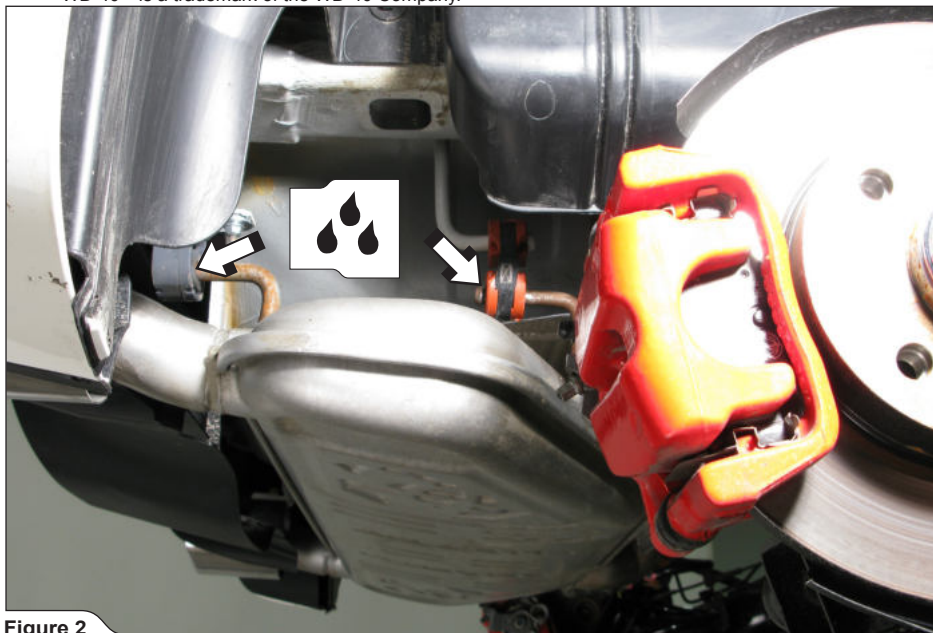

Figure 2
- Carefully pull the rubber brackets off the muffler's brackets, using flat pry bar and remove the original muffler off the vehicle (**Figure 2, 3**).